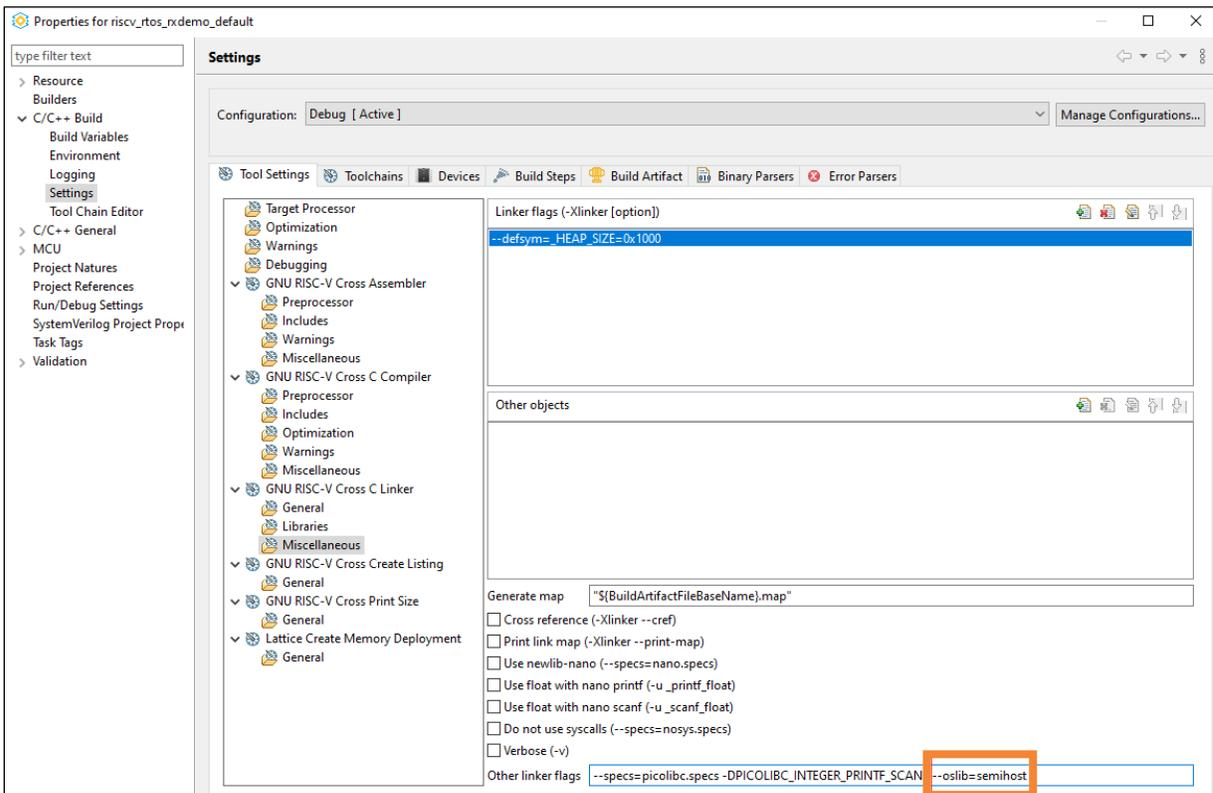

Figure 5.12. Other Linker Flags
8. Select **GNU RISC-V Cross C Linker > Miscellaneous**. Check link flags in the label, Other linker flags. Make sure the linker flag, `--oslib=semihost`, is supported (Figure 5.12).